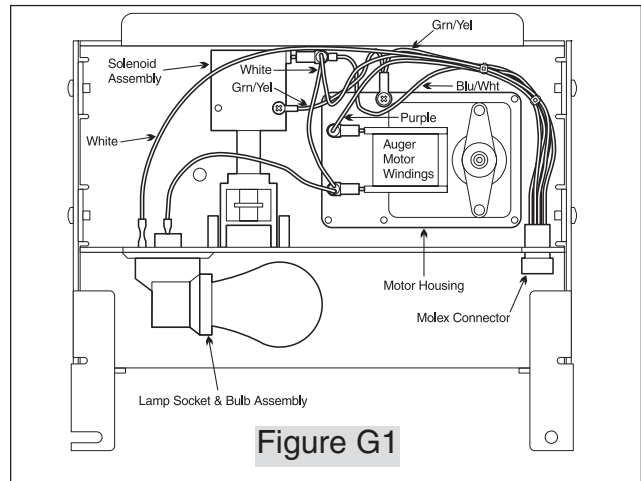

Figure G1
5. Remove screw securing green ground wire to motor housing on back of Motor Cover. (See Figure G1)
6. Disconnect two (2) leads hooked to Auger Motor windings (Leads are purple and white - See Figure G1).
5. Remove screw securing green ground wire to Solenoid Assembly on the back of Motor Cover. (See Figure G1)
6. Disconnect two (2) leads hooked to solenoid coil (Leads are blue with a white stripe and white - See Figure G1).